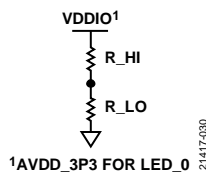

Figure 27. Hardware Configuration Pin Implementation
Hardware configuration pins are pins shared with functional pins and the voltage level on the pin is sensed and latched upon exiting from a reset. Some hardware configuration pins are multilevel sense, while others are two-level sense. Using two resistors, R\_LO and R\_HI (see Figure 27), four different voltage levels can be sensed, as shown in Table 19. Only MODE\_1 (L) and MODE\_4 (H) are relevant to the two-level sense pins and these are implemented with a 10 k $\Omega$  pull-down resistor or a 10 k $\Omega$  pull-up resistor, respectively. Note that LED\_0 must be pulled up to the AVDD\_3P3 rail rather than VDDIO.